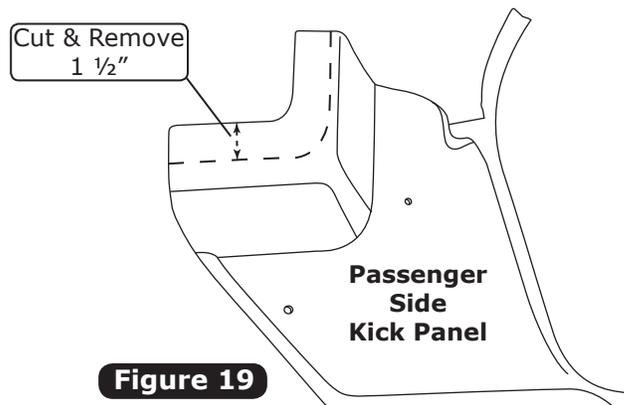

Figure 19
6. Modify passenger side kick panel as shown in Figure 19, below.